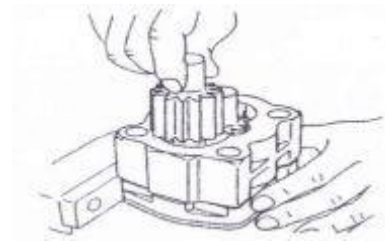

Fig. 5-34
g) Install the driven gear into the pump body in the direction shown in Fig. 5-34.